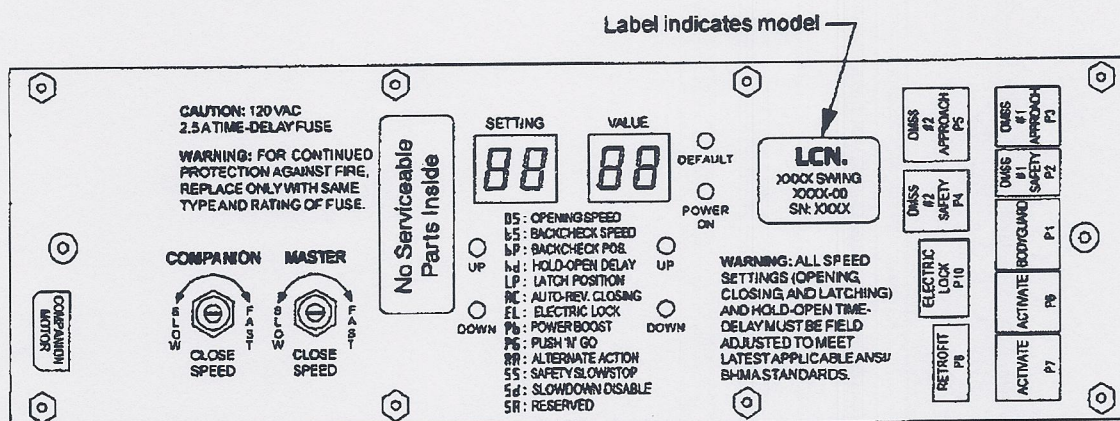

Figure 1-1
- 1.2. Check that the control box model (indicated on control box label; Figure 1-1) is correct for the application.